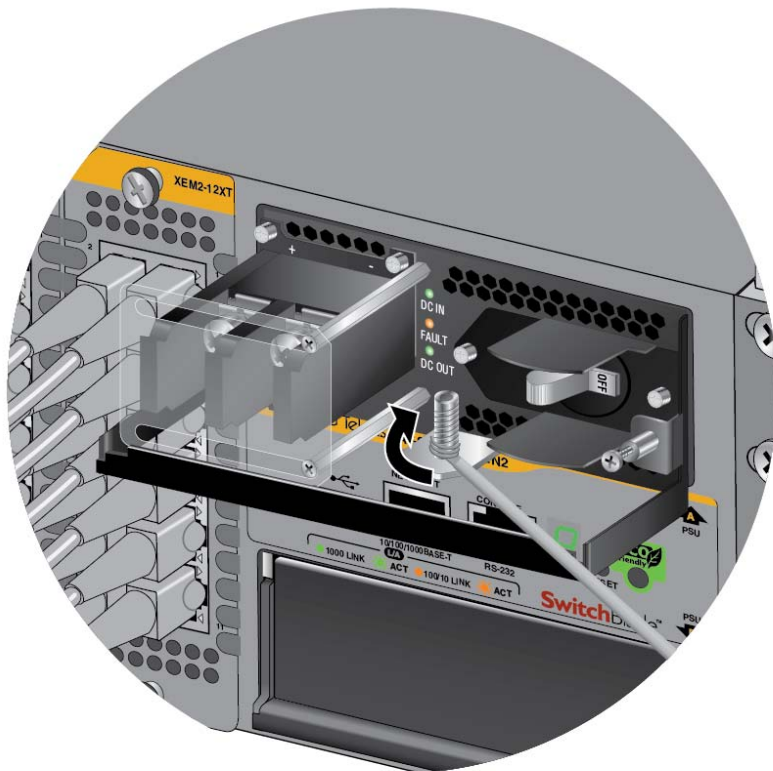

Figure 65. Attaching the Bare Grounding Wire to the Grounding Post
4. Wrap the grounding wire clockwise around the base of the grounding post, as shown in Figure 65.